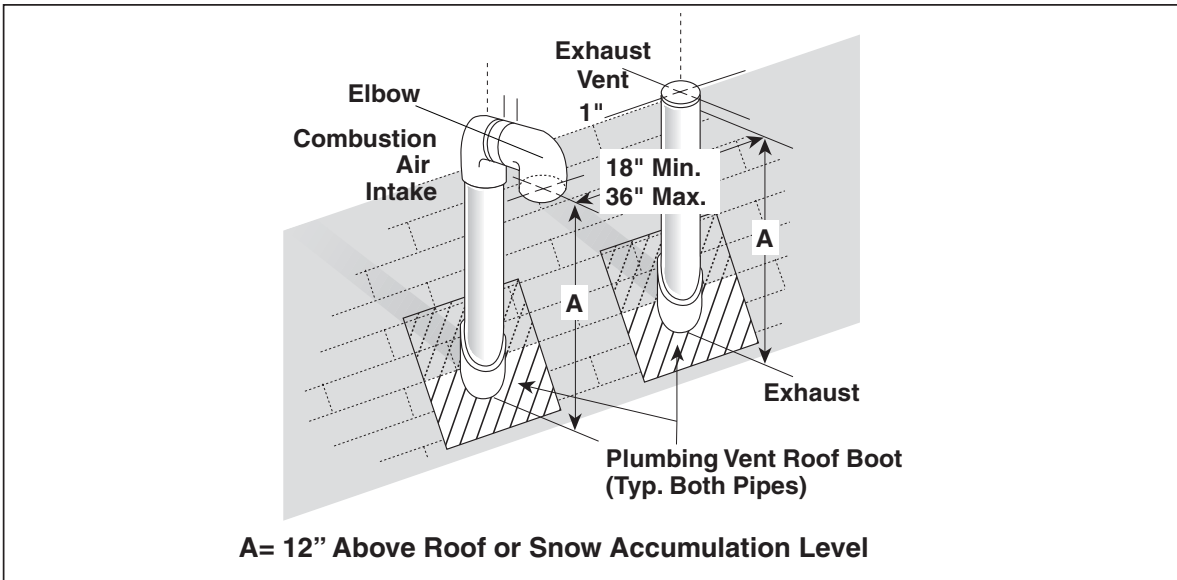

Figure 23. Vertical Vent Termination
Figure 23 shows the proper installation and clearances for vertical vent termination. The roof penetration must be properly flashed and waterproofed with a plumbing roof boot or equivalent flashing. Termination spacing requirements from the roof and from each other must be per Figure 23.
- c. The termination clearances shown in Figure 23 are maintained.